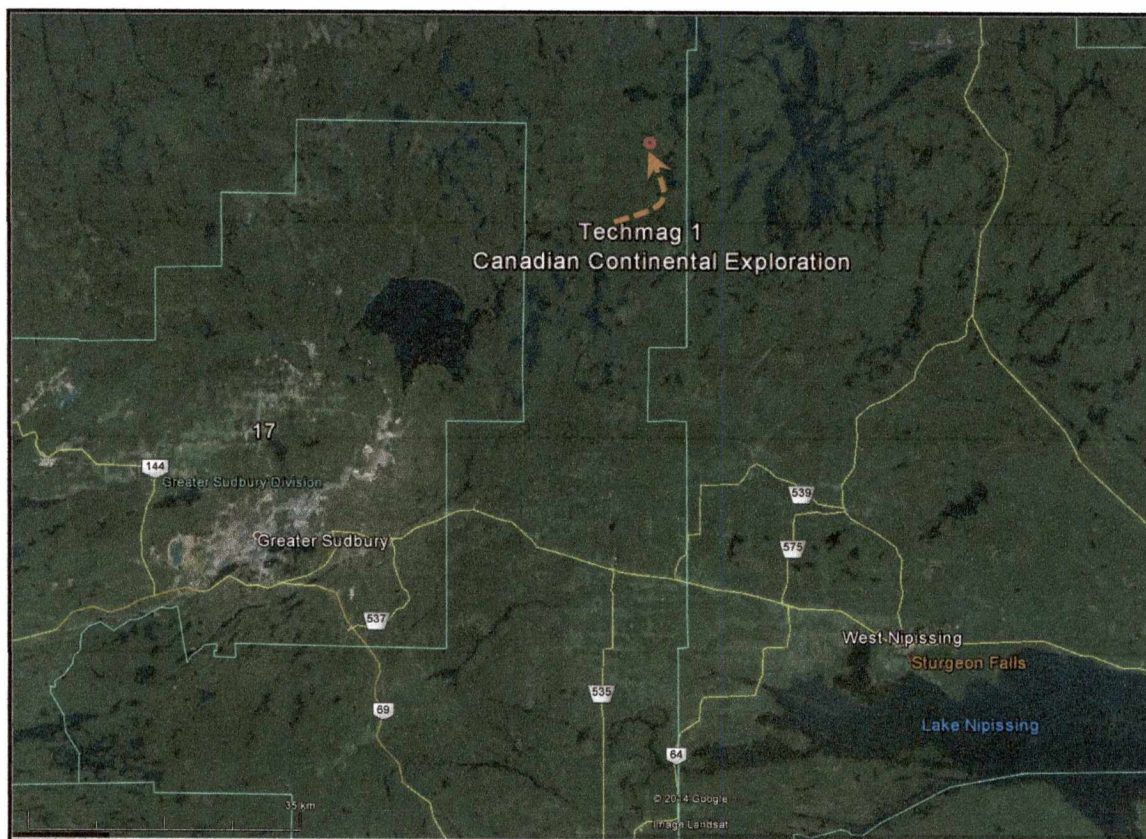

Figure 1: Techmag 1 Property General Location Map.
- FIGURE 1: TECHMAG 1 PROPERTY GENERAL LOCATION